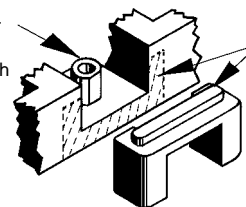

Fig.1
2. Both truck frames are identical. Cut off coupler pocket projection flush with end face of each truck frame. See Fig.1. This makes room for draft gear box.